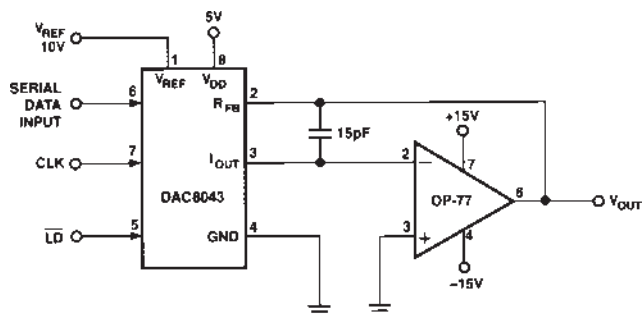

Figure 6. Unipolar Operation with High Accuracy Op Amp (2-Quadrant)
1. Phase compensation (see Figures 6 and 7).
In most applications, linearity depends upon the potential of I_{OUT} and GND (Pins 3 and 4) being equal to each other. In most applications, the DAC is connected to an external op amp with its noninverting input tied to ground (see Figures 6 and 7). The amplifier selected should have a low input bias current and low drift over temperature. The amplifier's input offset voltage should be nulled to less than 200 μ V (less than 10% of 1 LSB).
The circuit shown in Figures 6 and 7 may be used with an ac or dc reference voltage. The circuit's output will range between 0 V and approximately $-V_{REF}$ (4095/4096), depending upon the digital input code. The relationship between the digital input and the analog output is shown in Table I. The limiting parameters for the V_{REF} range are the maximum input voltage range of the op amp or ± 25 V, whichever is lowest.
1. Nominal full scale for Figures 6 and 7 circuits is given by
2. Nominal LSB magnitude for Figures 6 and 7 circuits is given by
The transfer function for the DAC8043 connected in the multiplying mode, as shown in Figures 6, 7, and 8, is